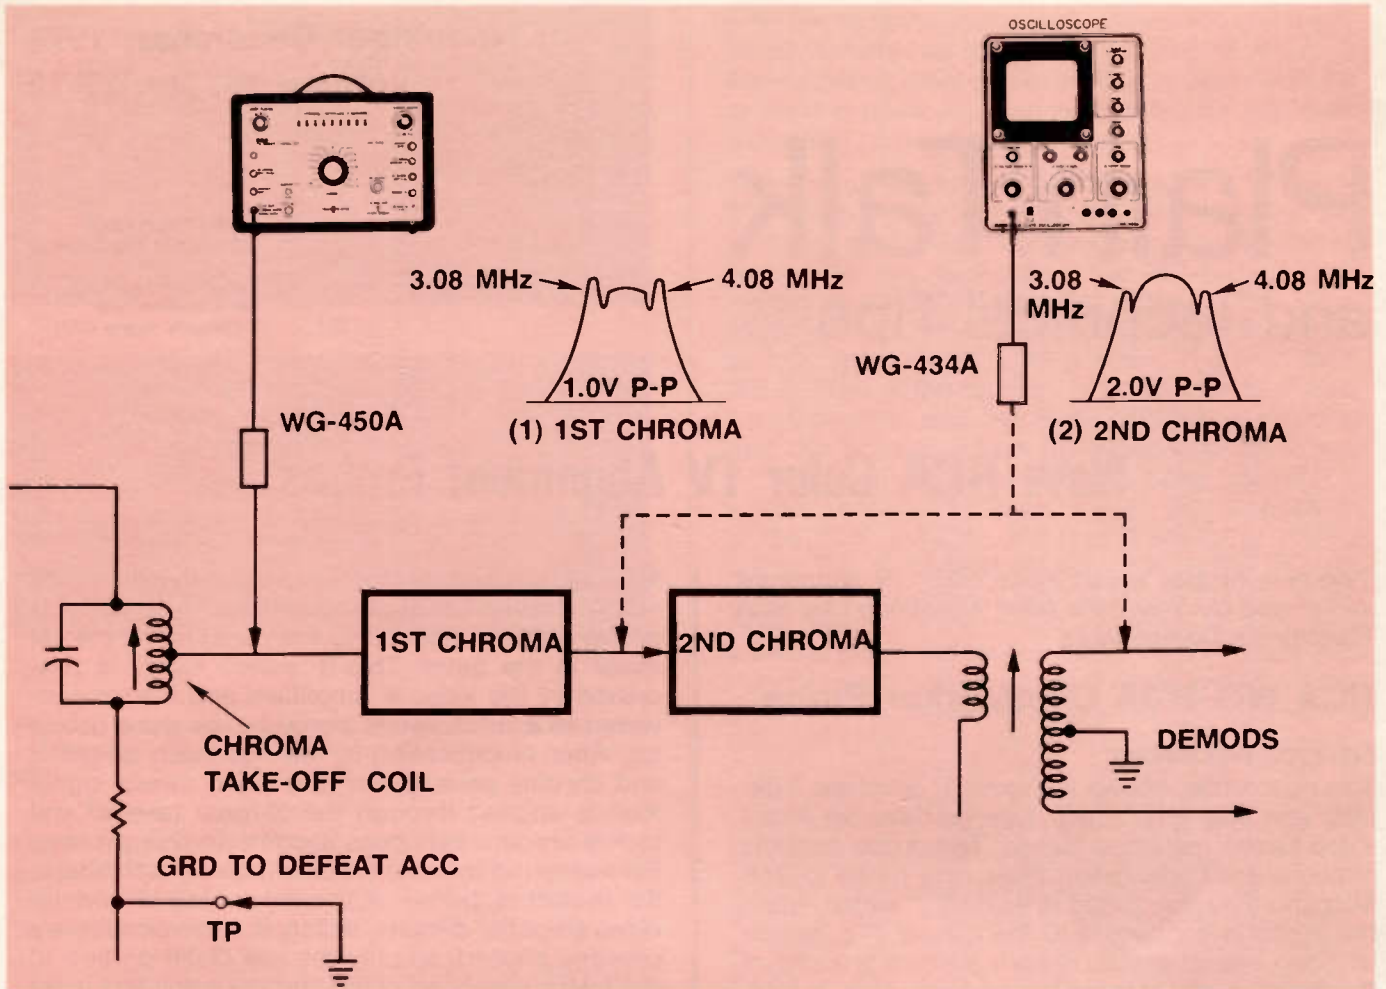

Figure 2—Functional diagram illustrating how the WG-450A ChroMarker probe is used to align the chroma bandpass amplifiers in RCA hybrid color TV receivers.
A typical application of the WG-450A ChroMarker probe is illustrated in Figure 2. This is the test setup and response curves for direct video sweep alignment of the two-stage chroma bandpass section in an RCA hybrid color TV receiver. The video sweep signal from the RCA WR-514A TV Sweep Chanalyst is applied through the WG-450A probe to the grid of the 1st chroma amplifier. The scope input is connected through a WG-434A chroma/video detector probe to the grid of the 2nd chroma amplifier. The transformer in the plate circuit of the 1st chroma amplifier is tuned to produce the response curve labeled (1) *1ST CHROMA*. The scope input then is moved to the secondary of the transformer in the plate circuit of the 2nd chroma, and this transformer is tuned to produce the response curve labeled (2) *2ND CHROMA*.
Completion of the preceding two alignment steps is followed by adjustment of the chroma take-off coil. The test setup in Figure 2, including the WG-